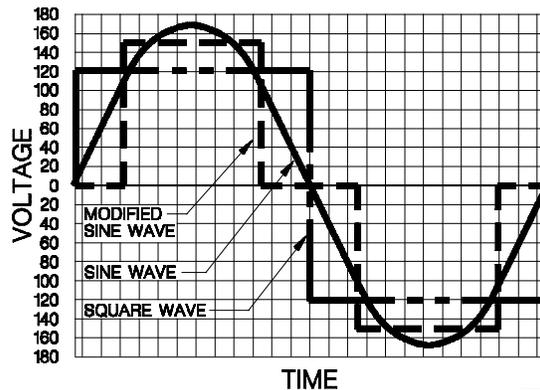

Figure 36, AC Waveforms
**Resistance** - The opposition to flow of direct current (DC)
**Sine Wave** – An AC waveform that looks like rolling waves on water. It rises and falls smoothly with time. The grid puts out a sine waveform. Any plug in AC equipment will operate from a sine wave output. This is shown in Figure 36, AC Waveforms.
**Square Wave** - The simplest AC waveform, this is shown in Figure 36, AC Waveforms. Some types of equipment behave strangely when run from a square wave.